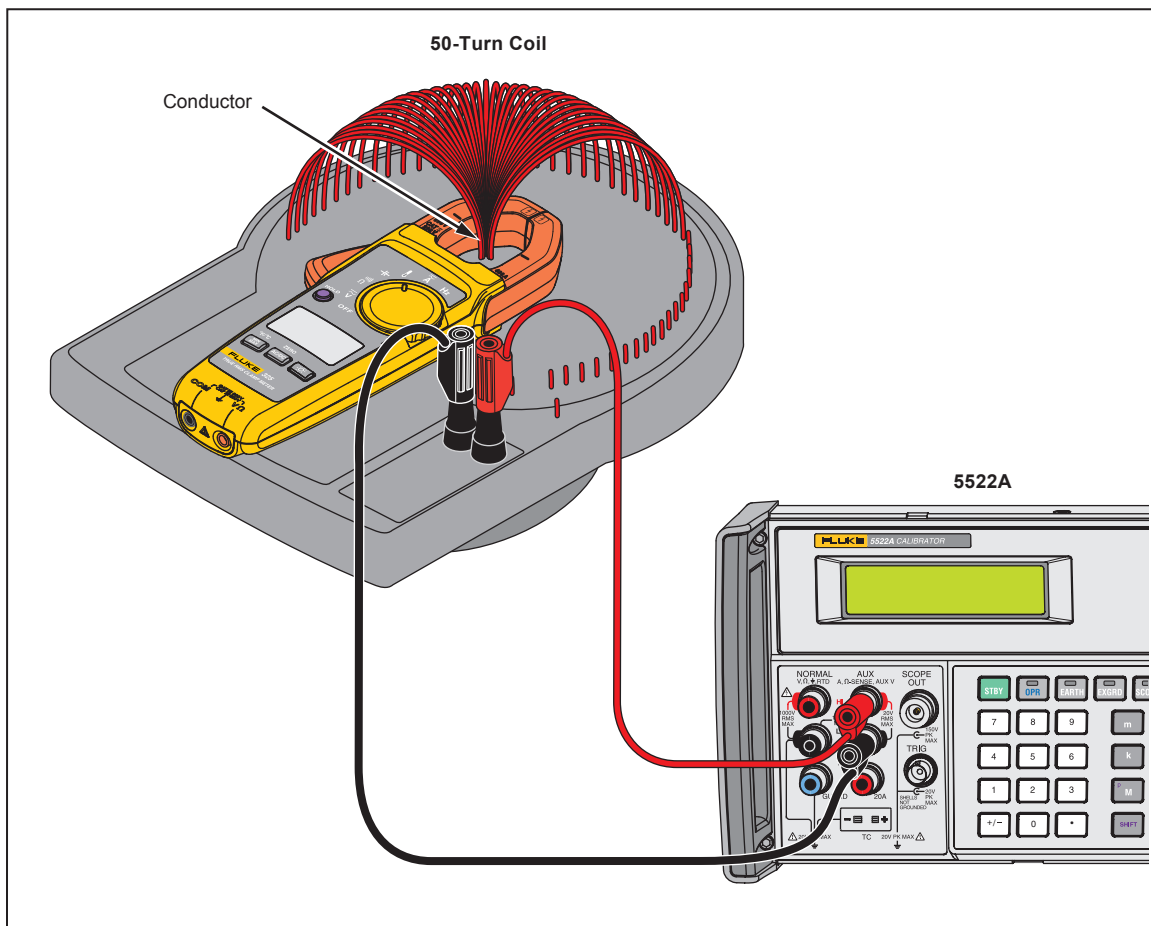

Figure 5. AC Current Test Connections
1. Connect the Calibrator current output and ground to the 50-Turn Coil. See Figure 5.